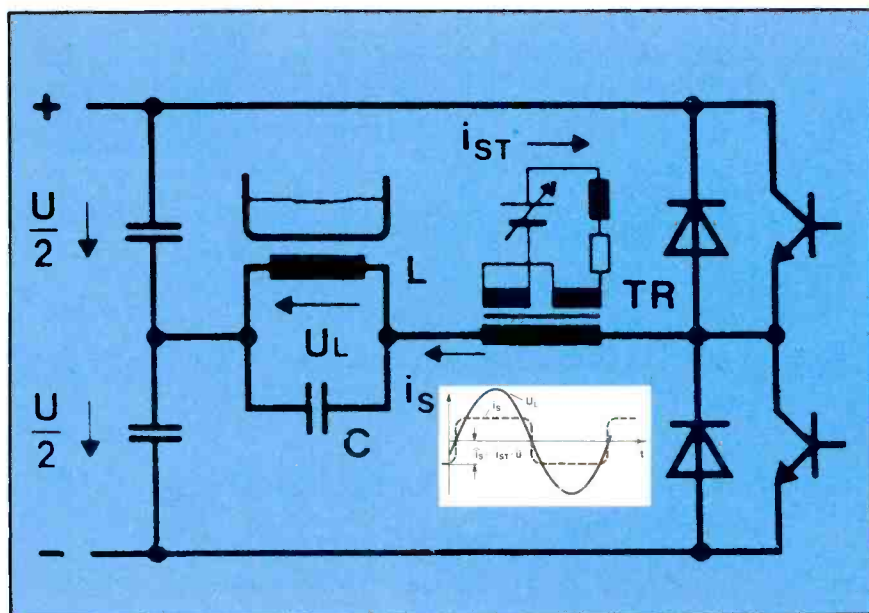

Figure 2. Induction cooking unit circuit consists of an inverter with parallel resonant circuit and transducer.*
The heart of each appliance is its frequency changer. As a rule, it consists of a rectifier supplied by an ac power supply and a downstream inverter which generates the higher-frequency alternating current. Figure 2 shows the basic circuitry of this transistor-inverter without the regulating control elements.
Unlike most other systems, in which the induction coil lies in a series resonant circuit, the induction coil L and the capacitor C form a parallel resonant circuit in this case. The design advantage is that sudden voltage jumps do not occur in the induction coil when power semiconductors switch. Such voltage jumps and the related coil voltage and coil current harmonics cause radio interference. As can be seen in Figure 2, the voltage V_L in the induction coil has a sinusoidal profile, and the harmonics in the sup-
Figure 2 These four patterns are for adjustments of color-TV receiver convergence and purity: one centered dot (not pictured); (A) one centered cross; (B) a crosshatch that makes squares; (C) a full-screen dot pattern.
used internally to modulate the RF and IF generators. These are the video patterns: a single *dot*, perfectly centered; a single *cross*, also perfectly centered; a *crosshatch* pattern that forms squares; a *dot* pattern (Figure 2 shows the cross, the crosshatch and the dot pattern); 10 standard keyed-rainbow *color bars*. (Figure 3); a 3-bar *chroma bar sweep* (Figure 4) for chroma adjustments; a *multiburst-bar sweep* with 10 bars for testing frequency response (Figure 5); a 10-bar *staircase*, for testing linearity (Figure 6); and external modulation for signals from NT64 (Figure 7) and VC63 accessories.